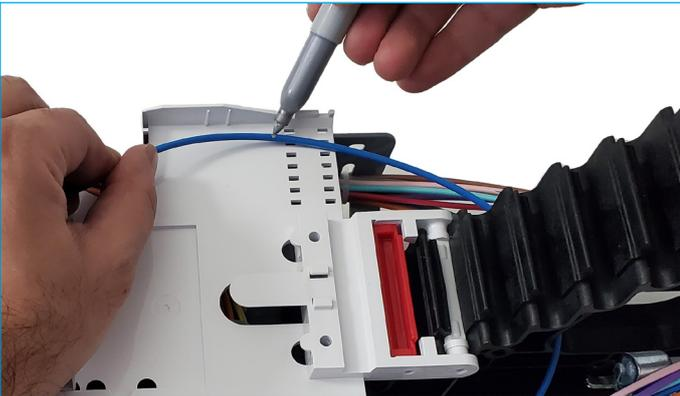

Figure 17
- 9.3 Place a mark on the buffer or transportation tube one inch past the edge of the tray (Figure 17).